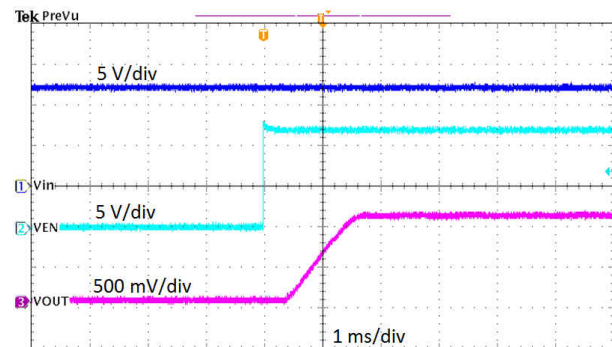

Figure 4-10. Start-Up Relative to EN
The TPS561208EVM-896 start-up waveform relative to enable (EN) is shown in Figure 4-10. Load = 1.05 Ω resistive.